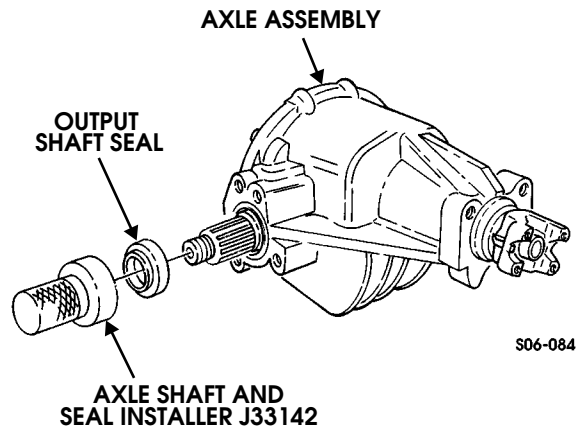

Figure 9-100: Output Shaft Seal Installation
67. Using axle shaft and seal installer J33142, install output shaft seals in axle assembly (Figure 9-100).